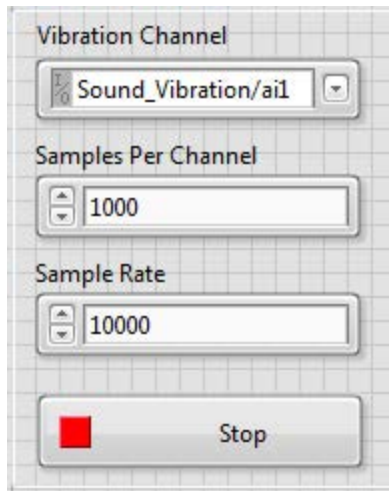

Figure 21. A good rule of thumb is to set the number of samples to $1/10^{\text{th}}$ of the sample rate.
38. Set the sample rate to 10000 Hz and the samples per channel to 1000, like in Figure 21.